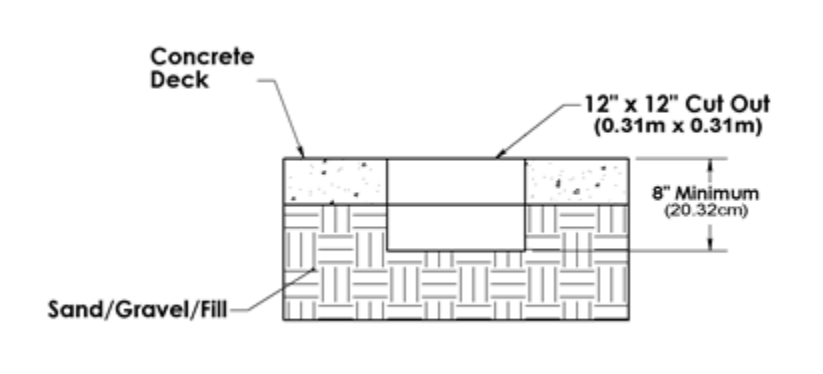

Figure 2
- b. Use a concrete cutting saw; cut the 12" x 12" square out of the existing concrete deck. Using a heavy/sledge hammer to break the cut section of concrete and remove from the deck. See Figure 2.